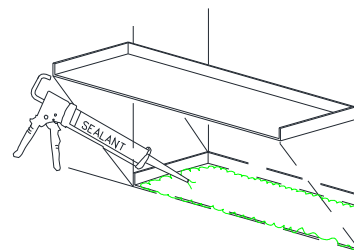

Figure D3:
- Secure the sillpan to the floor with glue. Position sillpan as necessary to allow for proper installation of frame assembly (Figure D3).